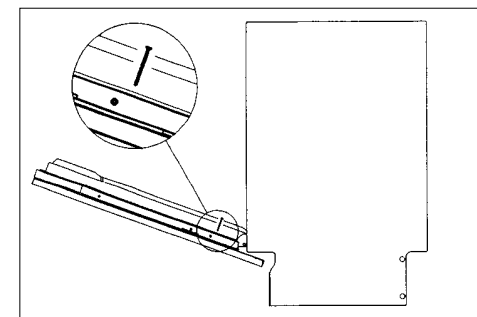

fig. 14b
- Attach the panel to the door of the dishwasher by pressing the upper pins (fig. 15a) into the slots of the plastic section. Slide the panel up a little. Screw the panel tight from the inside, as shown in figure 14b.